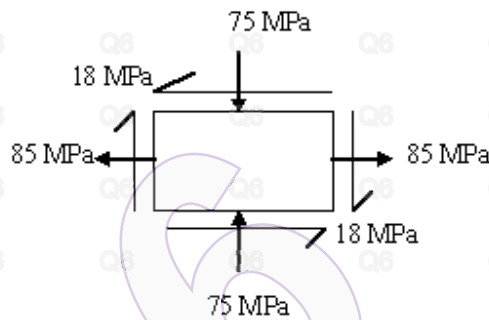

Figure 3
6. A plane element is subjected to stresses as shown in Figure.3. Determine the Principal stresses, maximum shear stress and their planes. Use Mohr's Circle Method. [15]